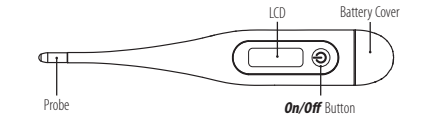

Figure 1: Digital thermometer components
- Press the *On/Off* Button next to LCD display in Figure 1. A tone will sound as the screen shows **1888.8**, followed by last recorded temperature. After showing the self-test temperature, the thermometer is now in the testing mode.